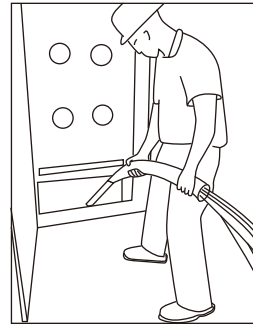

Fig. 9
7. Ready to feed wire (Fig 9).